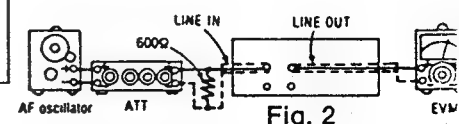

Fig. 2
- Set the AF oscillator's output frequency to 315Hz/-20dB (100mV) (see Fig. 2).